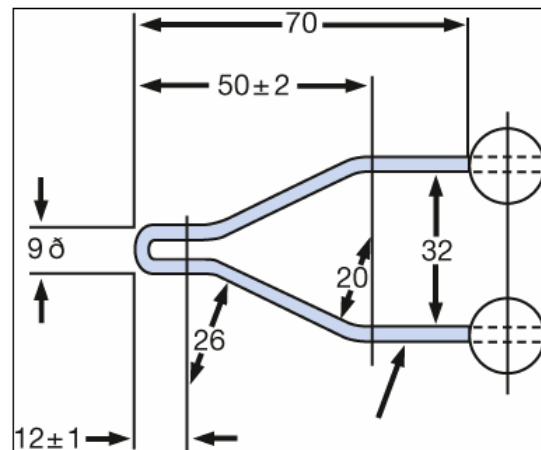

Fig. 2: Glow-wire
Glow wire	See Figure 2 below
- 9 Glow wire (see fig.2)